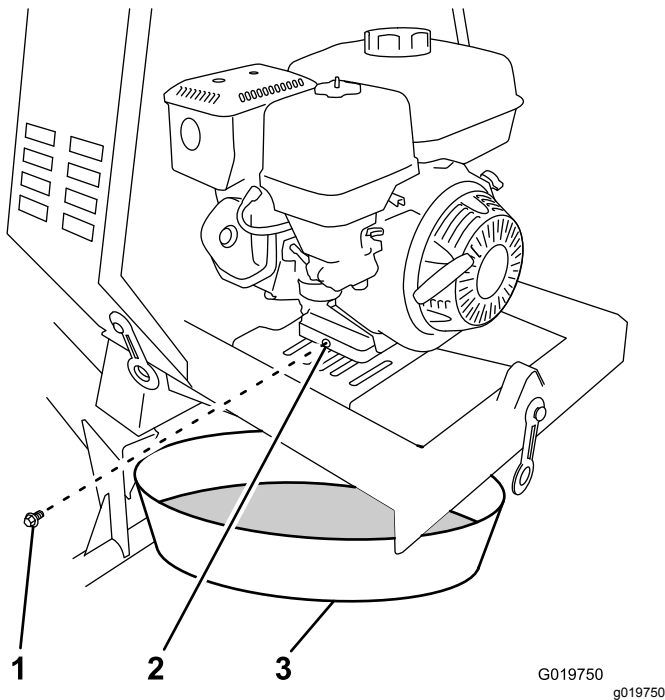

Figure 40
3. Place a drain pan under the oil-drain hole of the engine (Figure 40).
4. Remove the drain plug and catch the oil in the oil-drain pan (Figure 40).
5. When the oil has drained completely, install the drain plug with a new washer (Figure 40).